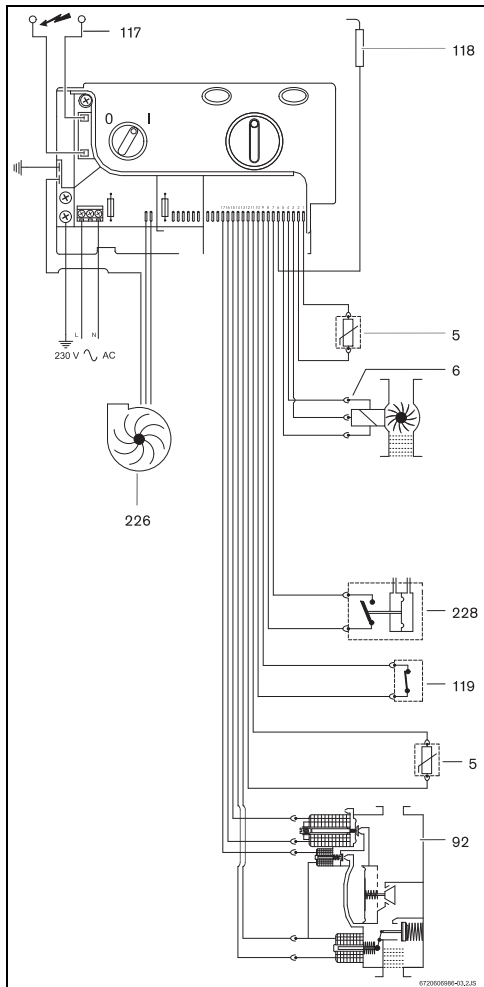

Fig. 2 Electrical layout
When a hot tap is opened, the water flow sensor should be in (Fig. 2, [6]) send a signal to the control unit. This signal initiates the following:
- Simultaneously, sparks are produced and the gas valve (Fig. 2, [92]) opens.
- The ionization electrode (Fig. 2, [118]) controls the state of the flame